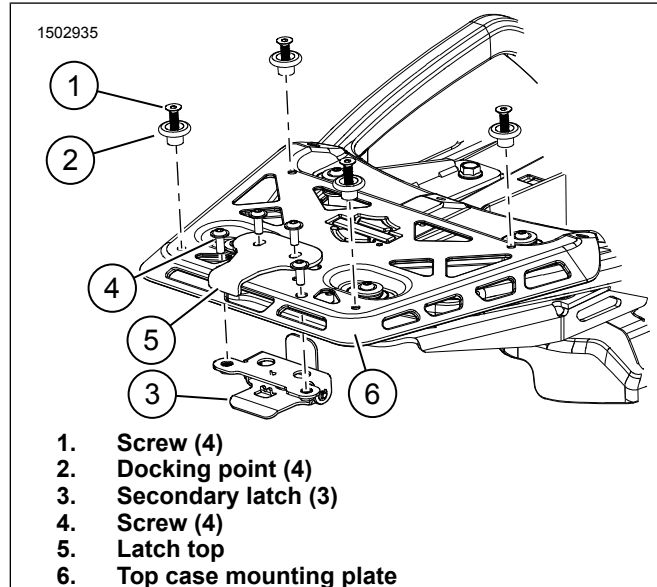

Figure 5. Docking Points
1. Figure 5 Install
2. Install docking points (2) onto top case mounting plate with flat head screws (1). Tighten screws (1).